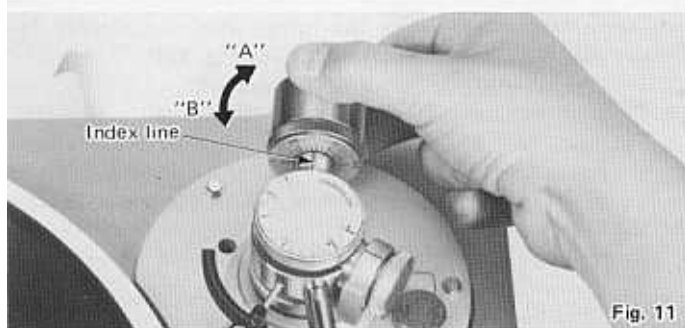

Fig. 11
10. Turn the counterweight in the B direction until the "1.75" mark on the dial is aligned with the index line. The "1.75" mark means an optimum tracking force of 1.75 g is being applied. (See Fig. 11)